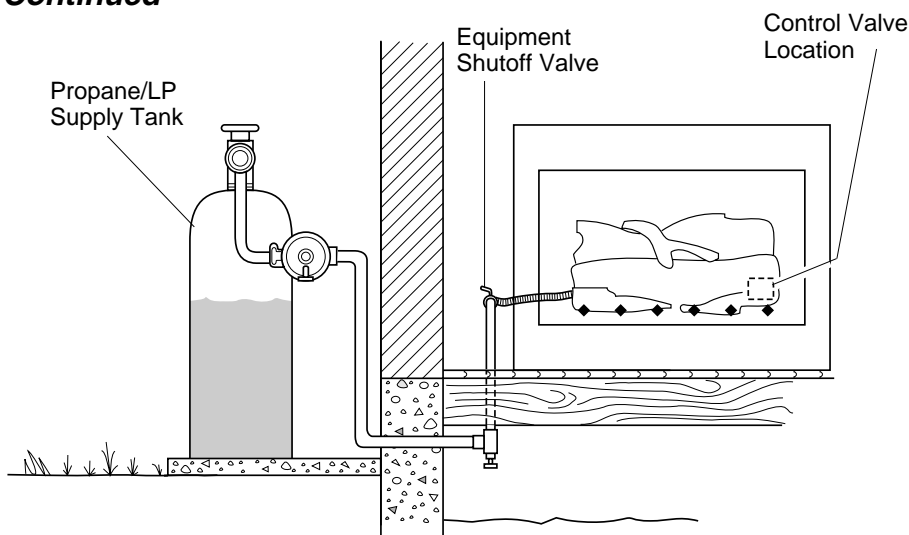

Figure 16 - Checking Gas Joints
3. Check all joints from propane/LP supply tank to equipment shutoff valve (see Figure 16, page 13). Apply noncorrosive leak detection fluid to gas joints. Bubbles forming show a leak.
4. Check all joints from equipment shutoff valve to control valve (see Figure 16, page 13). Apply noncorrosive leak detection fluid to gas joints. Bubbles forming show a leak.